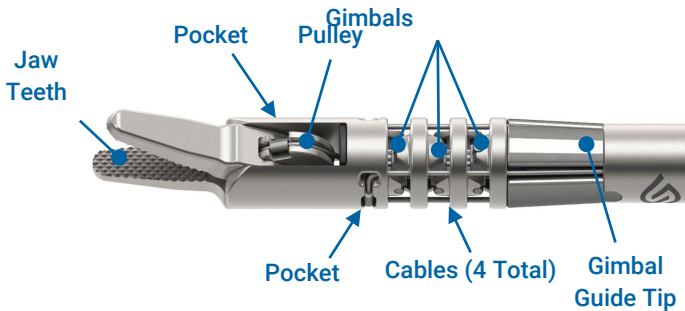

FIGURE 13: Take caution to brush these areas well.
**❗ NOTE:** Be sure to brush all crevices of the end effector, paying close attention to the areas in FIGURE 13.